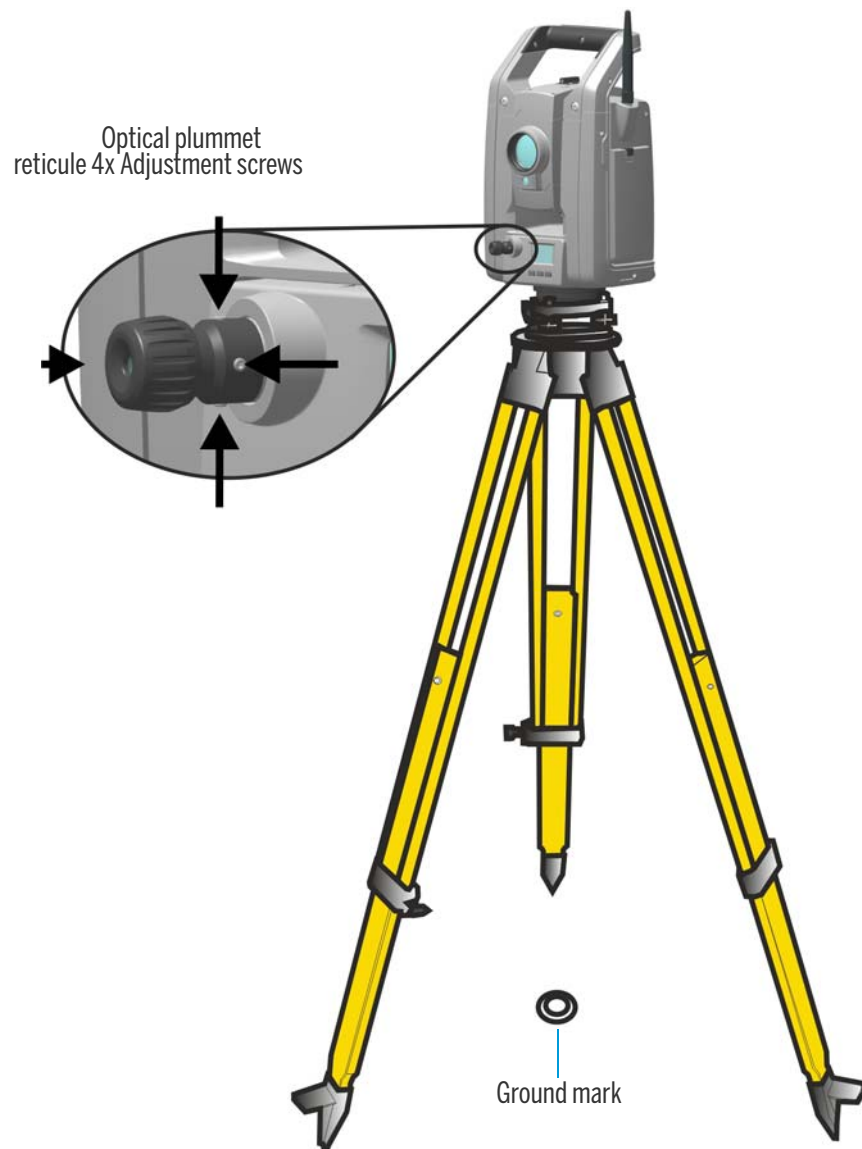

Figure 3.11 Optical plummet adjustment
1. Set up the instrument and level it over a ground mark so that the tripod height is 1.5 m (± 0.1 m) (4.920 ft. (± 0.328 ft.)). Figure 3.11